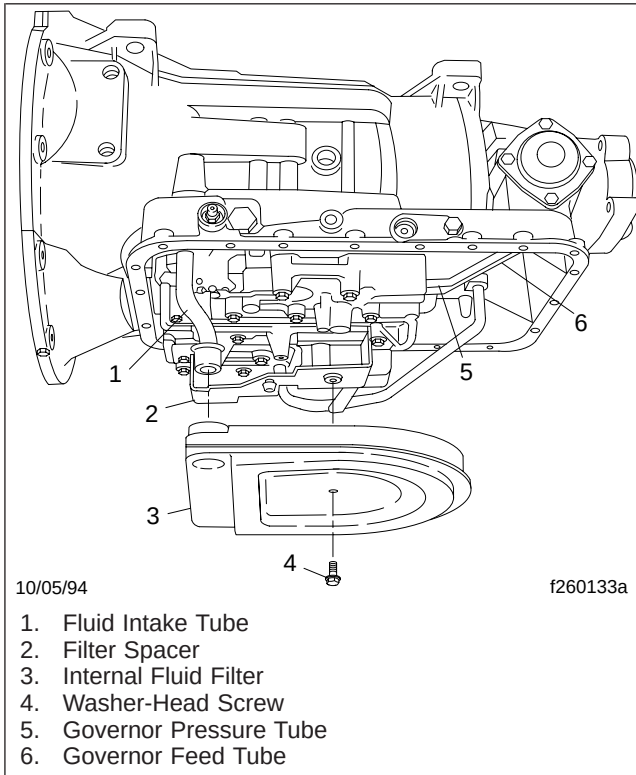

Fig. 5, Allison AT Series Transmission Filter
AT Series (Fig. 5)
7. Remove the washer-head screw that attaches the internal fluid filter to the filter spacer. Remove the filter and the fluid intake tube. See Fig. 5. Remove the sealing from the intake tube and discard the sealing.